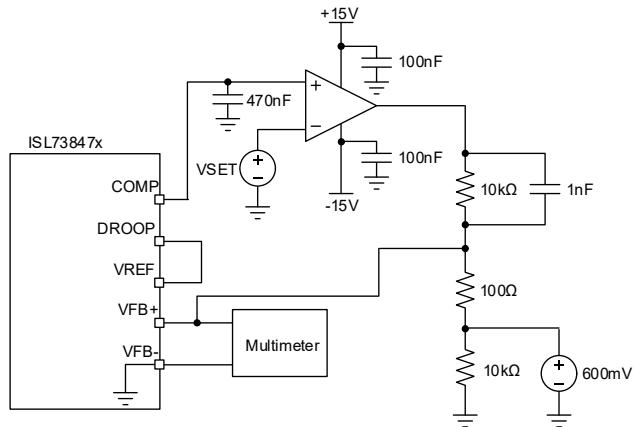

Figure 7. Closed-Loop Circuit
2. This test is conducted in a closed loop circuit as shown in Figure 7 and includes the error amplifier offset.